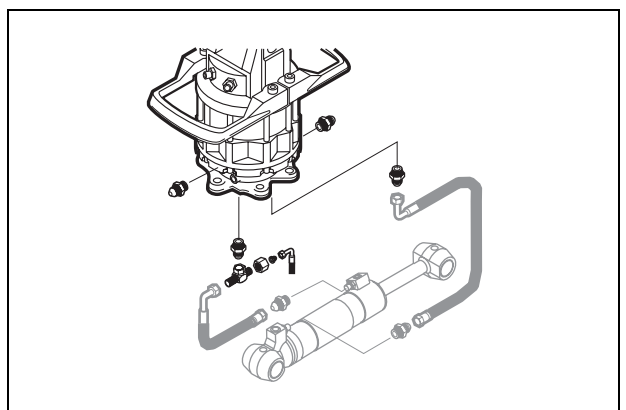

Fig. 17 Assemble the hydraulic adaptors to the rotator
4. Assemble the hydraulic adaptors for the grapple saw to the rotator. *See Fig. 17.*